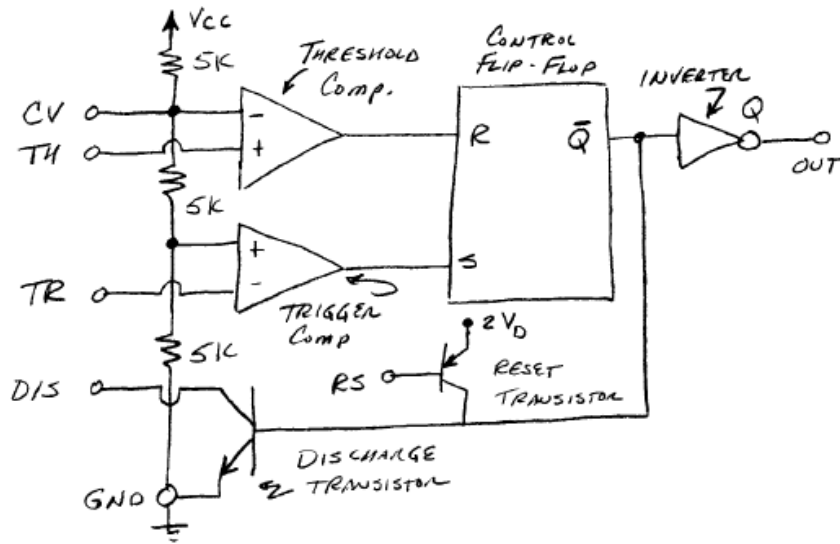

Figure 1.1 Timer function block diagram
According to figure 1.1 and the table above (1) when Q' is low, discharge transistor is cut-off, when Q' is high, discharge transistor is saturated. (2) When the reset pin is high, the reset resistor is cut-off and when the reset is low, the discharge transistor is saturated and Q' is forced high, Q is then low. (3) Threshold comparator is low when $V_{th} < 2/3V_{cc}$ and threshold